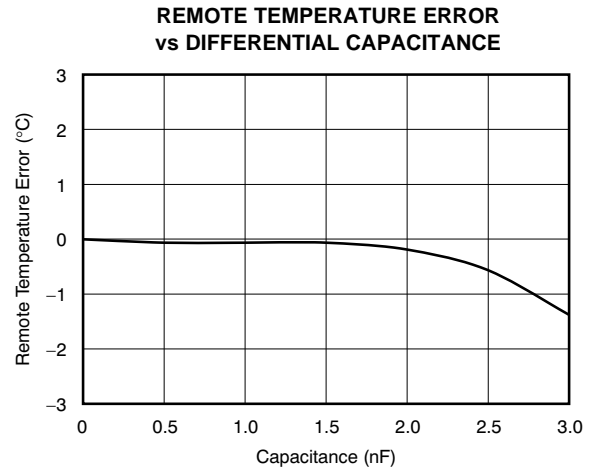

Figure 6.
(3) C_{DIFF} (optional) should be $< 1000\text{pF}$ in most applications. Selection of C_{DIFF} depends on application; see the Filtering section and Figure 6, Remote Temperature Error vs Differential Capacitance.
- (1) Diode-connected configuration provides better settling time. Transistor-connected configuration provides better series resistance cancellation.
- (2) R_S (optional) should be $< 1.5k\Omega$ in most applications. Selection of R_S depends on application; see the Filtering section.
- (3) C_{DIFF} (optional) should be $< 1000pF$ in most applications. Selection of C_{DIFF} depends on application; see the Filtering section and Figure 6, Remote Temperature Error vs Differential Capacitance.
- (4) TMP422 SMBus slave address is `1001 100` when connected as shown.
The TMP421/22/23 tolerate differential input capacitance of up to 1000pF with minimal change in temperature error. The effect of capacitance on sensed remote temperature error is illustrated in Figure 6, *Remote Temperature Error vs Differential Capacitance*.